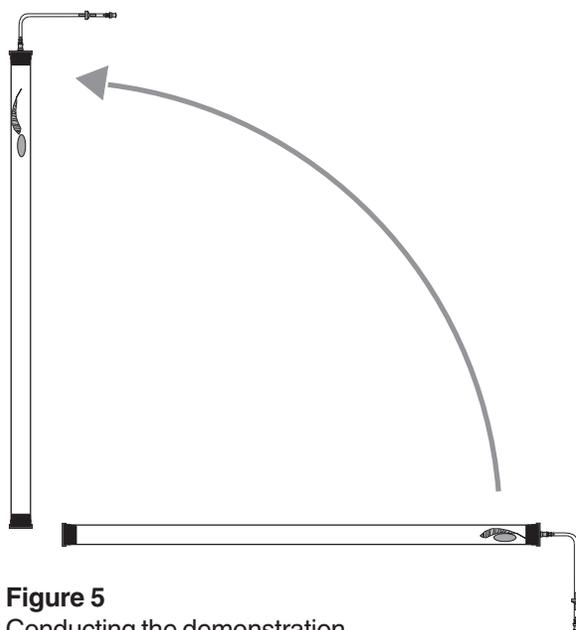

Figure 5
6. Hold the tube in a horizontal position and then quickly tip the end with the objects up so the tube is in a vertical position (Figure 5). Watch the motion of the objects.